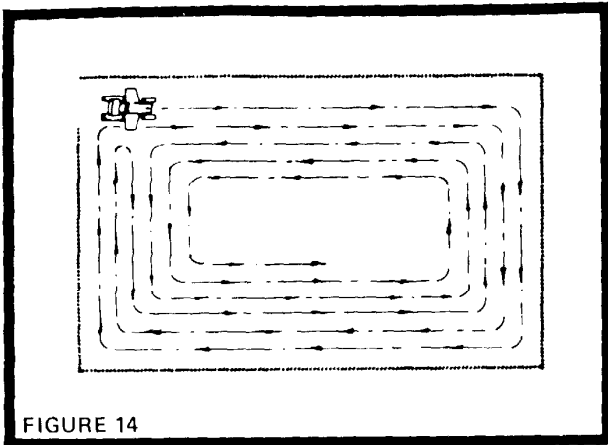
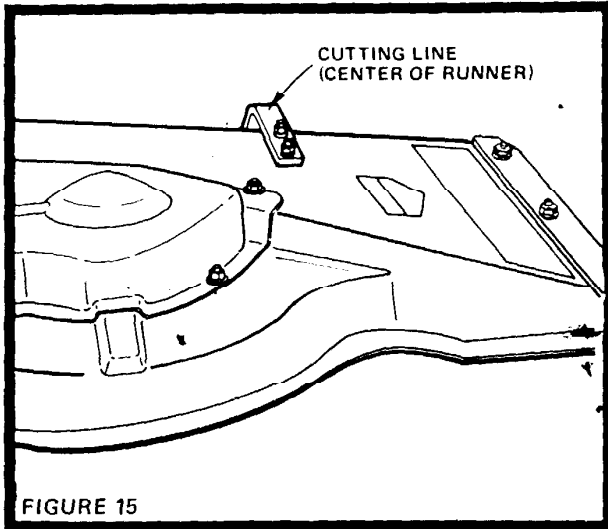

FIGURE 14
FIGURE 15
3. Drive so that clippings are discharged onto the area that has been cut. See Fig. 15 for line of cut on right hand side of mower. Have the cut area to the right of the machine. This will result in a more even distribution of clippings and more uniform cutting. When mowing large areas (Fig. 14), start by turning to the right so that the clippings will be discharged away from shrubs, fences, driveways, etc. After two or three rounds, mow in the opposite direction making left hand turns until finished. If grass is extremely tall, it should be mowed twice. The first time cut relatively high. The second time to the desired height. The left hand side of mower should be used for trimming.